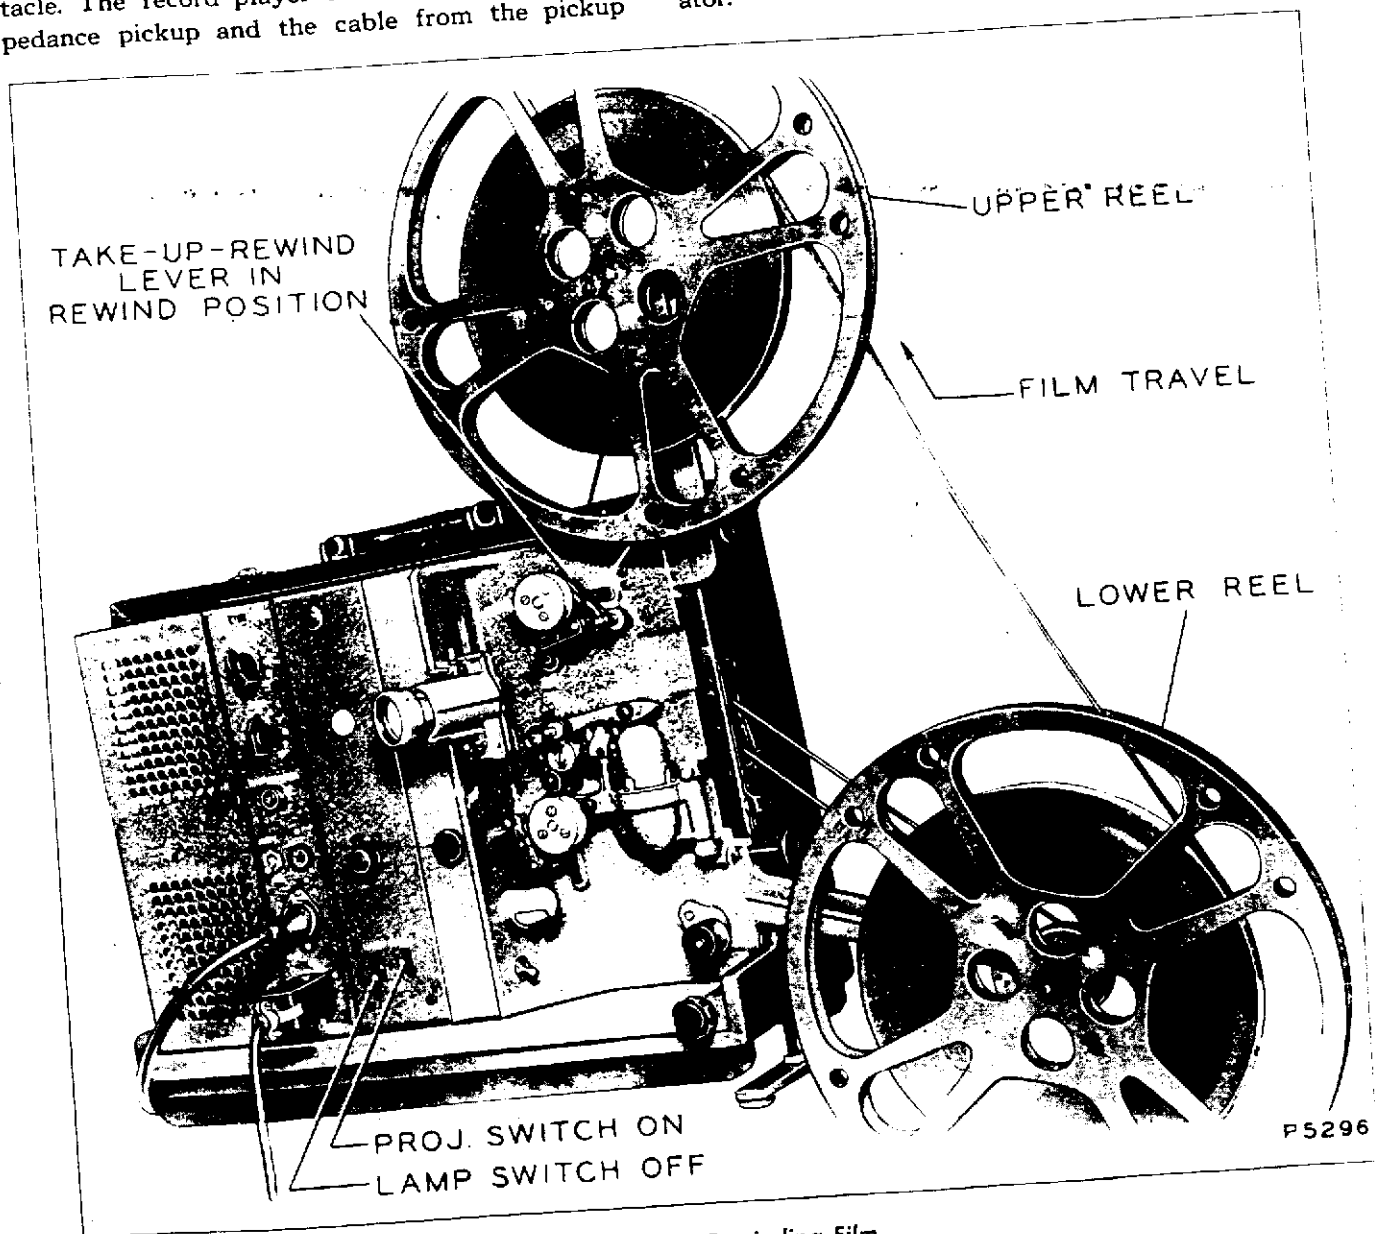

Figure 6—Rewinding Film
10. All film which has been run through a projector must be rewound before it can be shown again. Rented films are usually rewound by the firm from which they are obtained, but frequently the projectionist must rewind. Figure 6 shows how to do it.